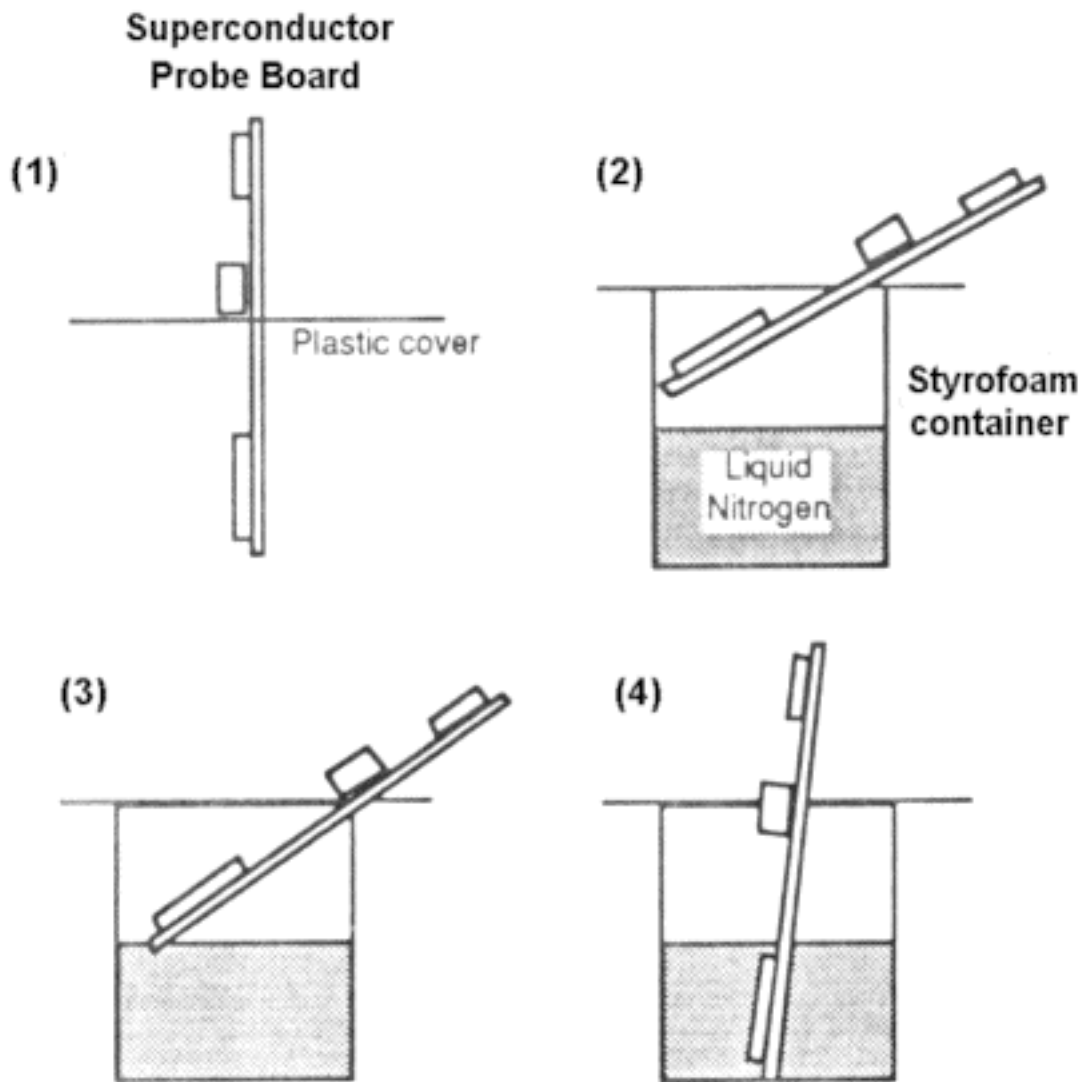

Fig. 3
(7.2) Insert the SUPERCONDUCTOR PROBE BOARD into the slit of the provided plastic cap. Let the plastic cap be below the interface jack, as shown in (1) of Fig. 3.
(7.3) Insert the SUPERCONDUCTOR PROBE BOARD into the liquid nitrogen container in such a way that the ring assembly is kept above the liquid level and the plastic cap covers the opening of the container, as shown in (2) of Fig. 3. The ring assembly is gradually cooled by the cold nitrogen evaporating from the liquid nitrogen. The plastic cap prevents the air from entering the container to form frost on the superconductor ring being cooled down.
(7.7) The probe can be cooled to about 120° K by the cold nitrogen gas evaporating from the liquid nitrogen. From that point, you should insert further the probe until you hear the hissing noise. Now use the liquid nitrogen in contact with the end of the brass or aluminum disk to cool down the whole ring, as shown in (3) of Fig. 3. You will notice that the temperature drops again and the VOLTAGE OUTPUT drops rapidly, indicating that the superconductor is cooled below its critical temperature and becomes superconducting. The data of the change of the VOLTAGE OUTPUT vs. the TEMPERATURE MONITOR in this stage is not reliable since the ring assembly is not cooled uniformly. We will measure the superconducting transition more accurately in the next step.
(8.1) You can immerse the ring assembly completely into liquid nitrogen when the TEMPERATURE MONITOR is about 80°K, as shown in (4) of Fig. 3.